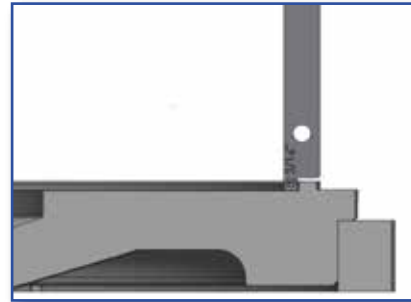
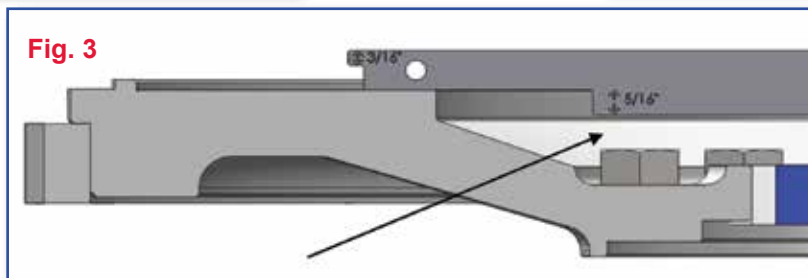

Fig. 2
Fig. 3
You must have a minimum of 5/16" distance from the friction surface (face) of your flywheel to the top of the bolt head that holds the flywheel to the crankshaft. If it is less than 5/16", you need a NEW flywheel! (Fig. 3)
Flywheel clutch pilot cannot be greater than 3/16" deep. If it is greater than 3/16" the clutch will not bolt tight to flywheel. (Fig. 2)
**REMEMBER:** Machining the flywheel past the recommended .060" moves the pressure plate away from the transmission. In this event, install a fiber spacer (provided) on the input shaft between the clutch brake and the transmission. The release yoke in the bell housing may not align properly with the pressure plate release bearing housing. Linkage adjustment may be required during clutch setup. If resurfacing is required, while the flywheel is mounted to the crank shaft, verify correct flywheel dimensions as seen in Fig. 2 and Fig. 3.